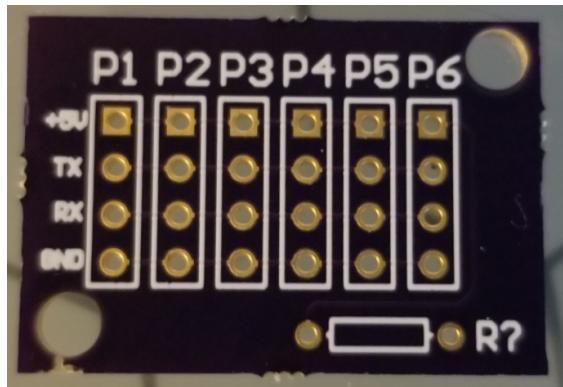

Figure 6: Unpopulated Serial Splitter Board
1. The board will come unpopulated and will look like the Figure 6. First take and solder the 4.7K resistor and all of the header pins into the board.